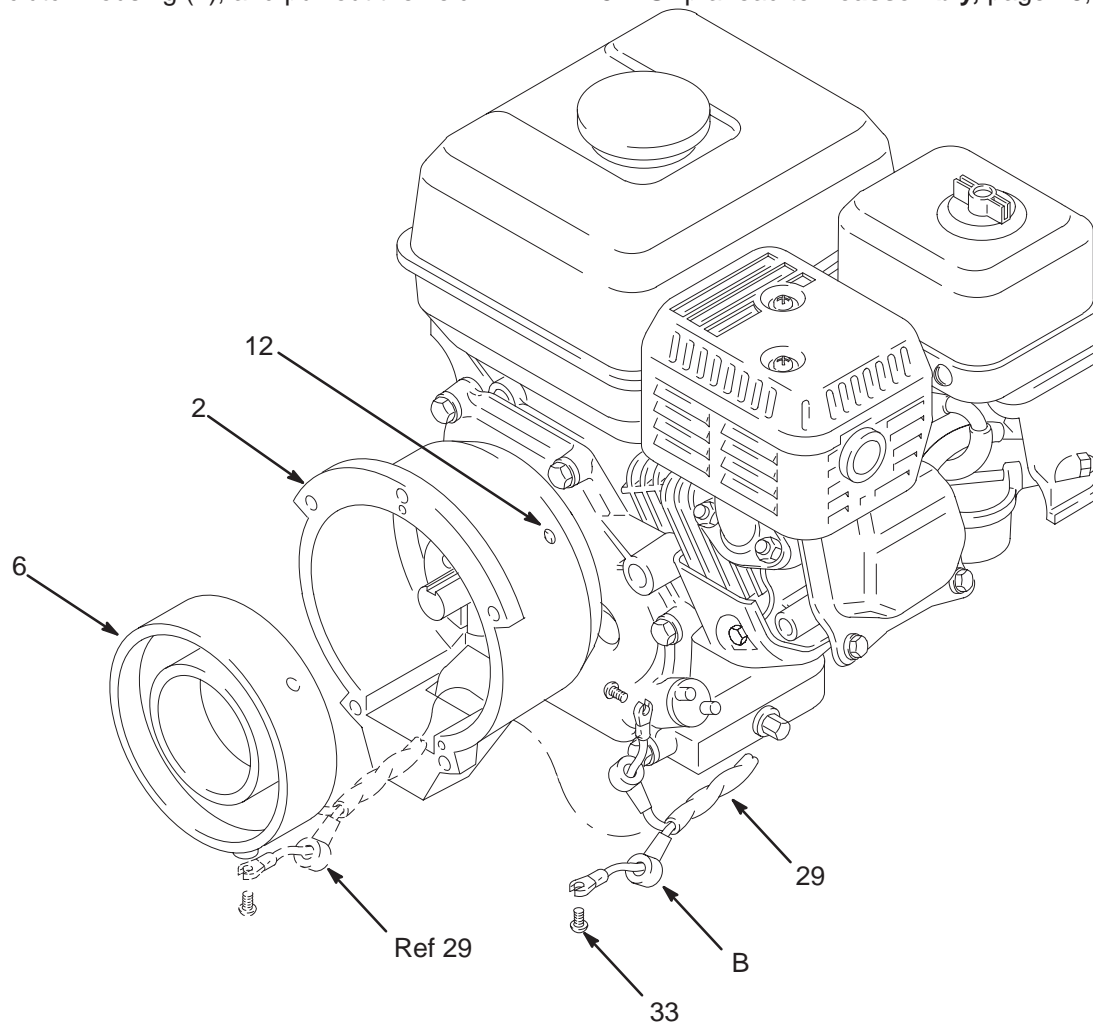

Fig. 19
**NOTE:** Refer to Fig. 19.
2. Loosen the four setscrews (12) holding the field (6) to the clutch housing (2), and pull out the field.
3. Pull the plastic caps (B) off the wire screws (33) in both places on the field. Loosen the screws and release the wires (29).